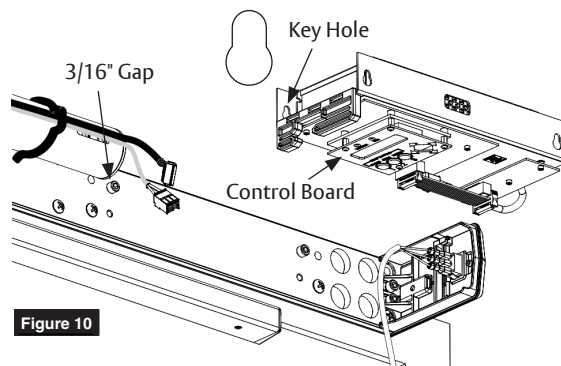

Figure 10
1. Insert two (2) screws. Leave 3/16" gap between head of screw and backplate. (Figure 10)
2. Slide power supply key holes over screws allowing narrow slots of key holes to rest on screws. (Figure 10)
NOTE: Narrow slots of key holes are always at top and control board is always at bottom for proper installation. (Figure 10)